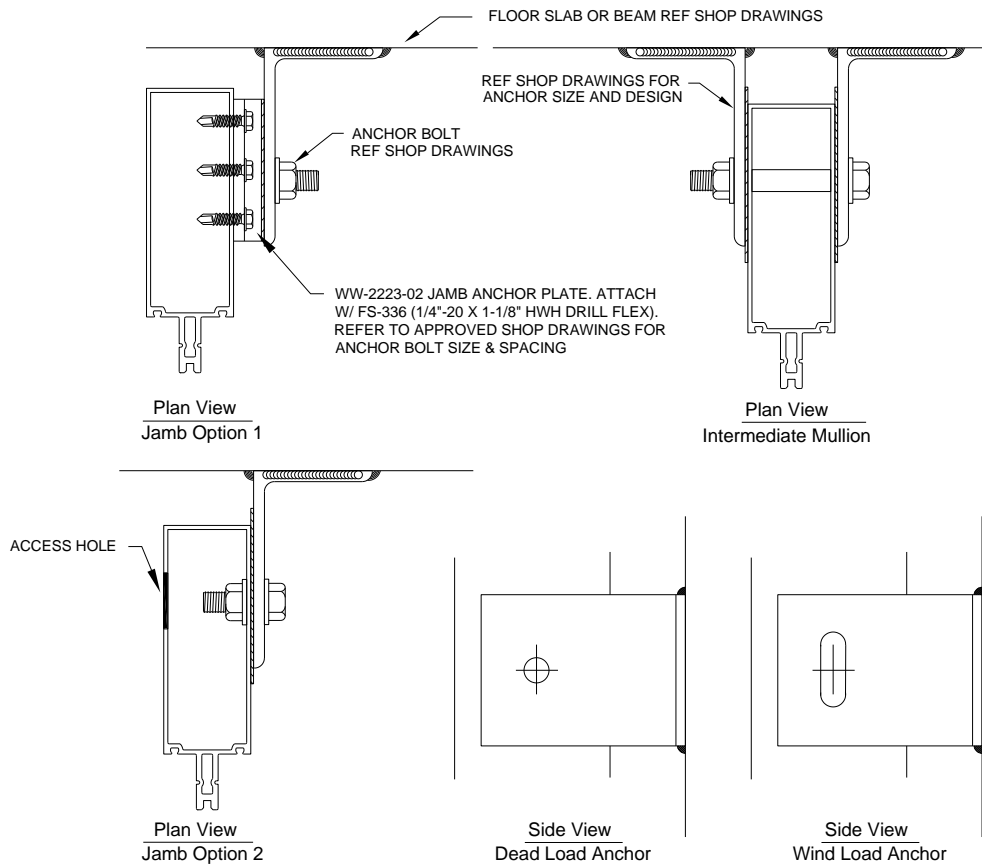

Figure 12: Face of Slab Anchoring Details
8.4 Anchor the mullion to floor slab or beam. See *Figure 12* Do not over tighten bolt(s). For expansion anchors, back off nut 1/4 turn and stake bolt.
- 9.4 Anchor the mullion to floor slab or beam. See *Figure 12*. Do not over tighten bolt(s).